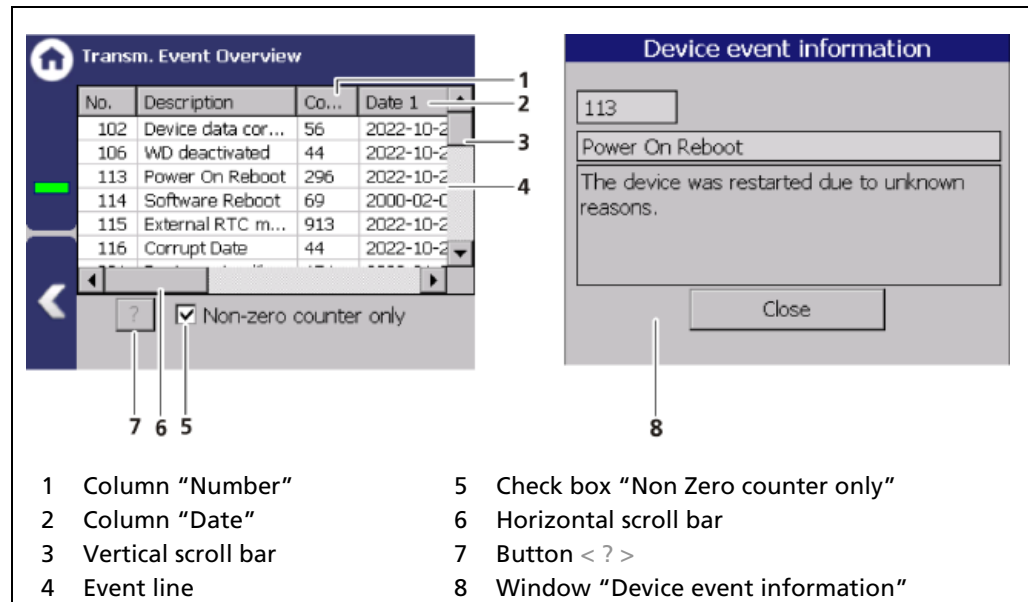

Fig. 126 Transmitter Event Overview
All events that can be logged are chronologically presented in tabular form in the window "Event overview". Activate the check box "Non-zero counter only" (Fig. 126, item 5) in order to display events that have occurred.
1. Click on a line in the list (Fig. 126, item 4).
2. Click on "< ? >" (Fig. 126, item 7).
- ▶ The window event information (Fig. 126, item 8) appears.
4. Slide the bar of the horizontal scroll bar (Fig. 126, item 6) to the right to see at what times (date, time) the event occurred.